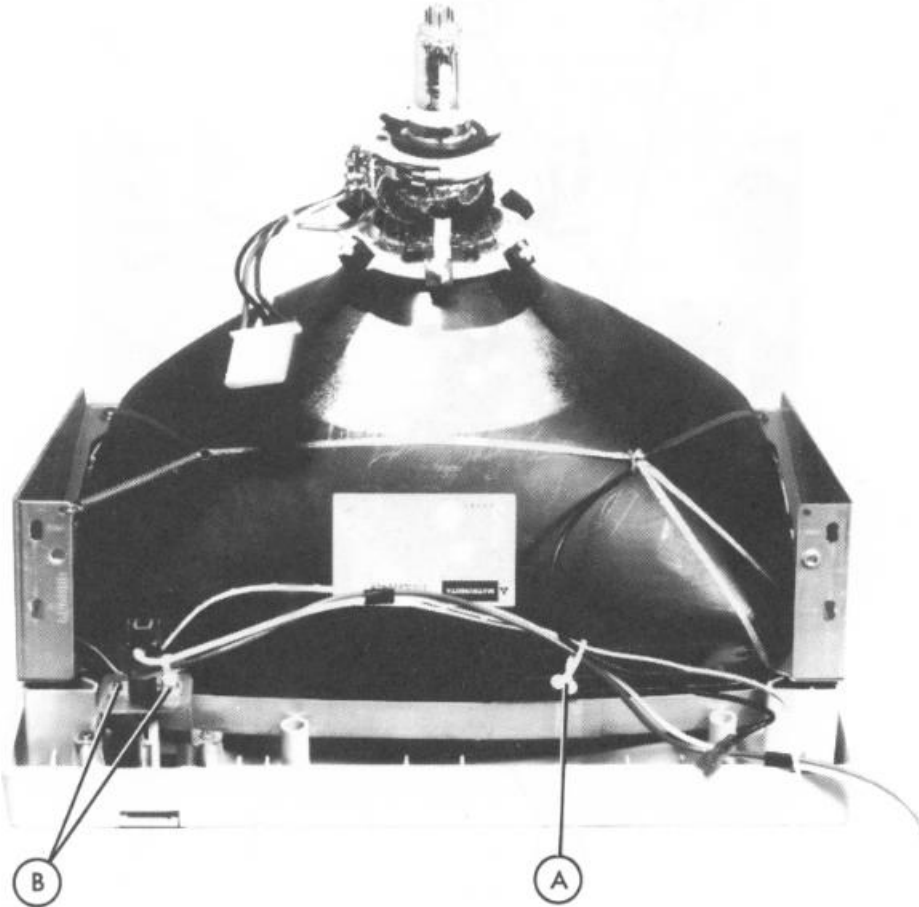

FIGURE 4-22. POWER SWITCH REMOVAL/REPLACEMENT
1. Install the brightness control (A) with screw (C).
2. Connect the CRT circuit board (B) to the brightness control.
4.5.11 Power Switch Removal (Figure 4-22)
4.5.12 Power Switch Replacement (Figure 4-22)